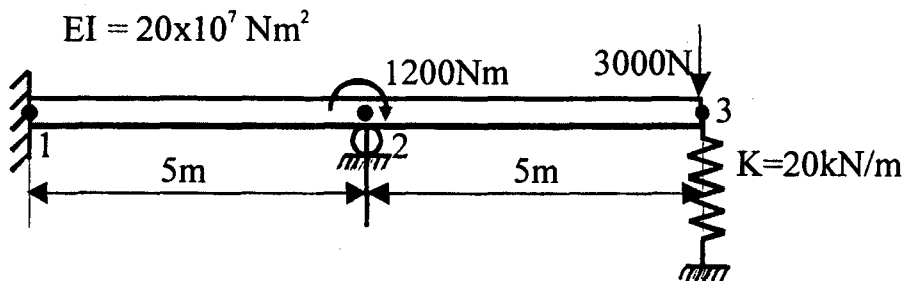

Fig. 2
- 5) Compute the transverse deflection and slope at the right end (node 3) of the beam as shown in Fig. 2. Use two beam elements of equal length. The right end is supported by a linear spring as shown. No derivation is necessary and symbols have usual meaning.